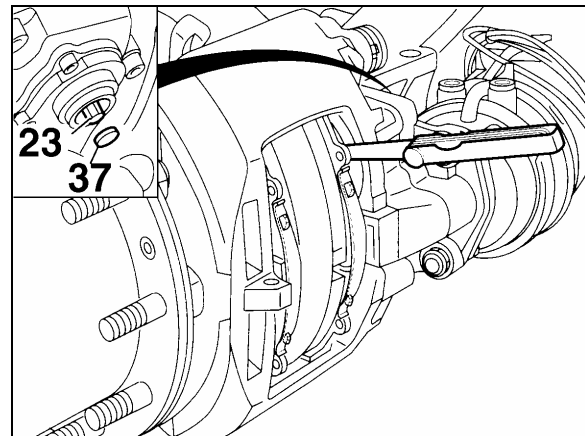

FIGURE 23: RUNNING CLEARANCE
- a) Remove cap (37, Fig. 23).
- b) Using a box wrench (8 mm), turn the adjuster pinion (23, Fig. 23) counterclockwise about 2 - 3 clicks to increase running clearance. By operating the braking system